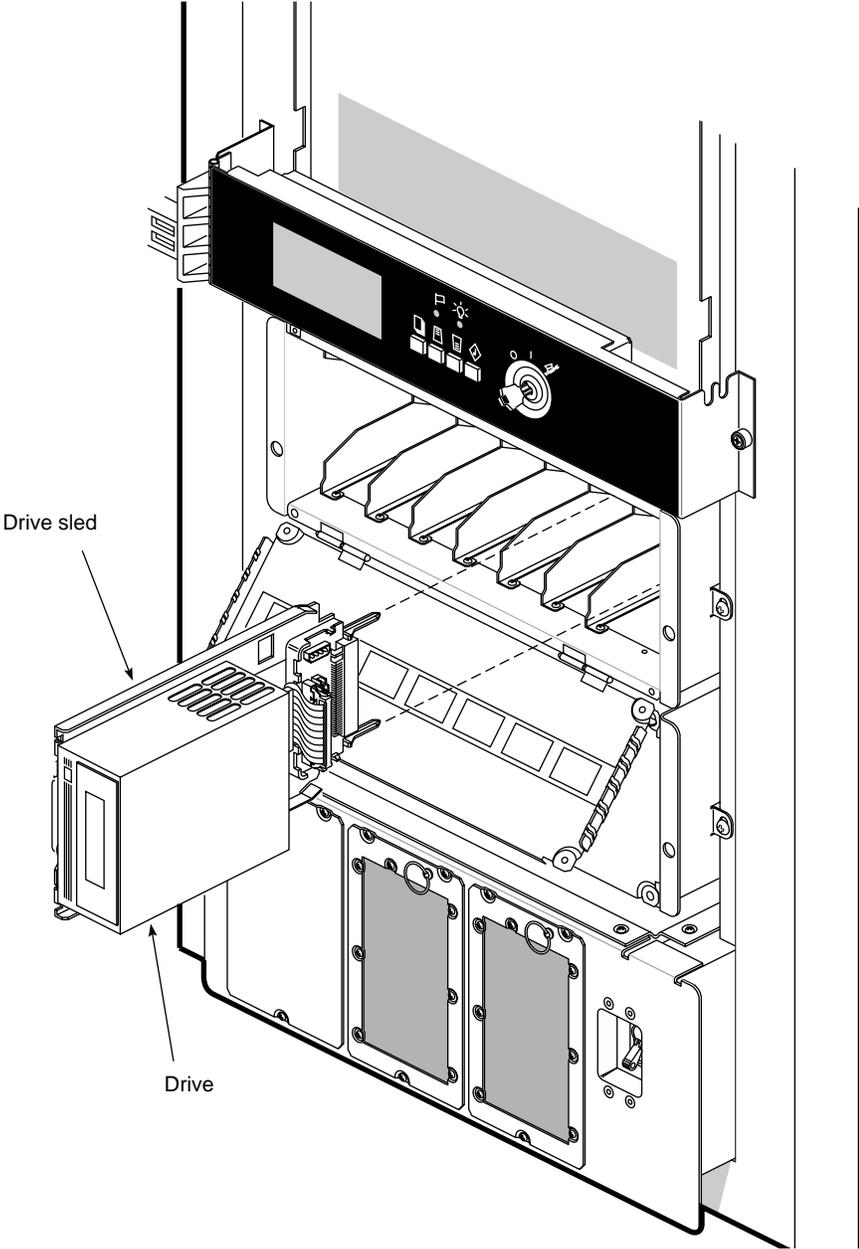

Figure 3-9 Installing a Front Loading Device
4. Orient the FLD relative to the SCSIBox so that the drive is facing toward the right (see Figure 3-9).